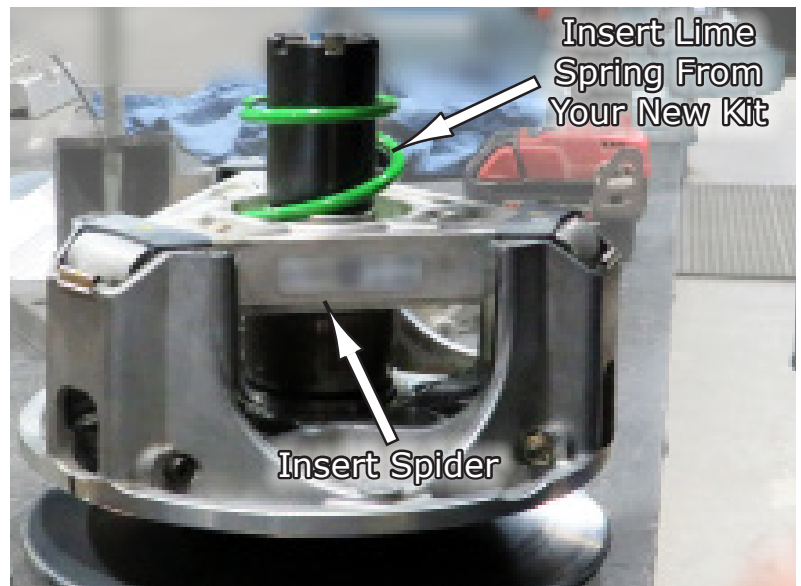

Fig.25
26. After all weights have been installed, replace the Spider and insert the LIME Spring from your New Kit in place of the Factory Spring as shown in **Fig.25.**